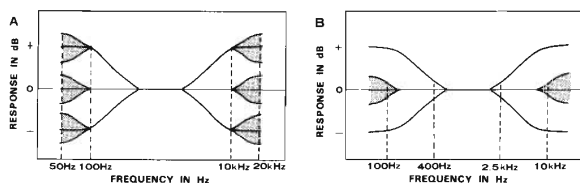

Fig. 6
Similarly, the larger TREBLE control knob adjusts treble response at 10kHz by $\pm 10\text{dB}$. The signal can be further adjusted at 20kHz by $\pm 6\text{dB}$. Fig. 6(A) shows the obtainable frequency response curves when both controls are used together. If the larger knobs are left at "0" and only the smaller knobs used, these function as tone controls with turnover frequencies at 100Hz and 10kHz , respectively. Conversely, if both small controls are left an "0" and only the large knobs used, these act as tone controls with turnover frequencies at 400Hz and 2.5kHz . Fig. 6(B) illustrates these uses.